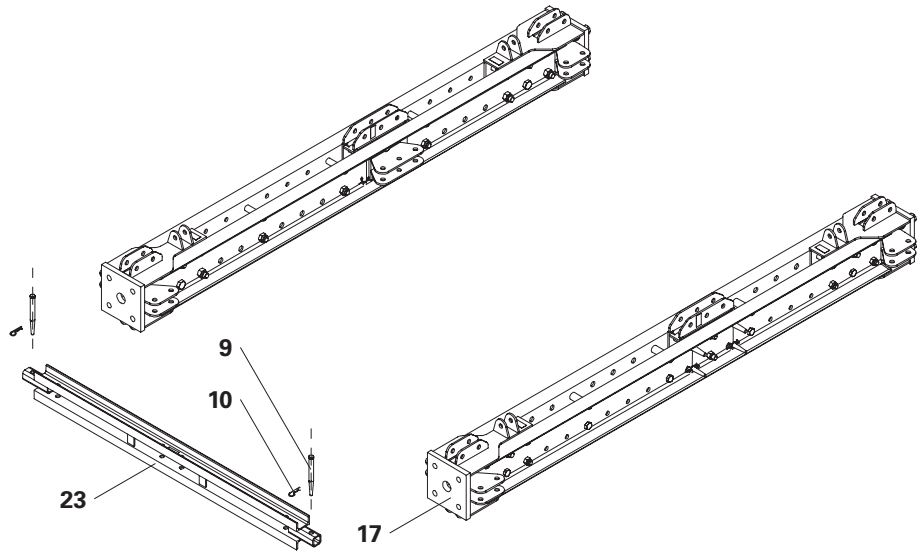

Fig. B3.01a
1. Insert the horizontal ledger VST 200 (23) into the prop base VST (17).
2. Connect the horizontal ledger VST 200 (23) with 1x fitting pin  $\varnothing$  21 mm (9) on both sides respectively.
3. Secure fitting pins with cotter pins 4/1 (10). (Fig. B3.01a)